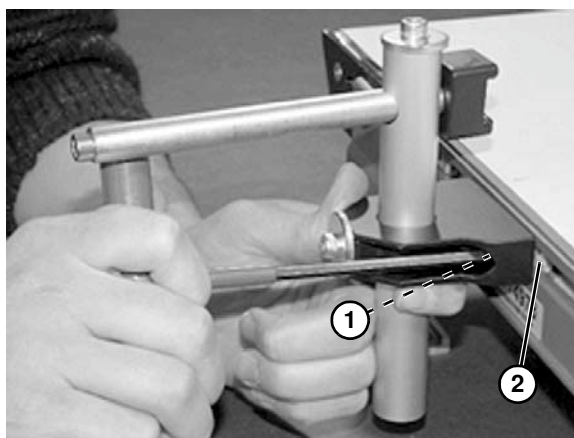

Figure 36
- Tighten screws (**Figure 36, item 1**) making sure t-nut (**Figure 36, item 2**) rotates and engages inside of the t-slot.